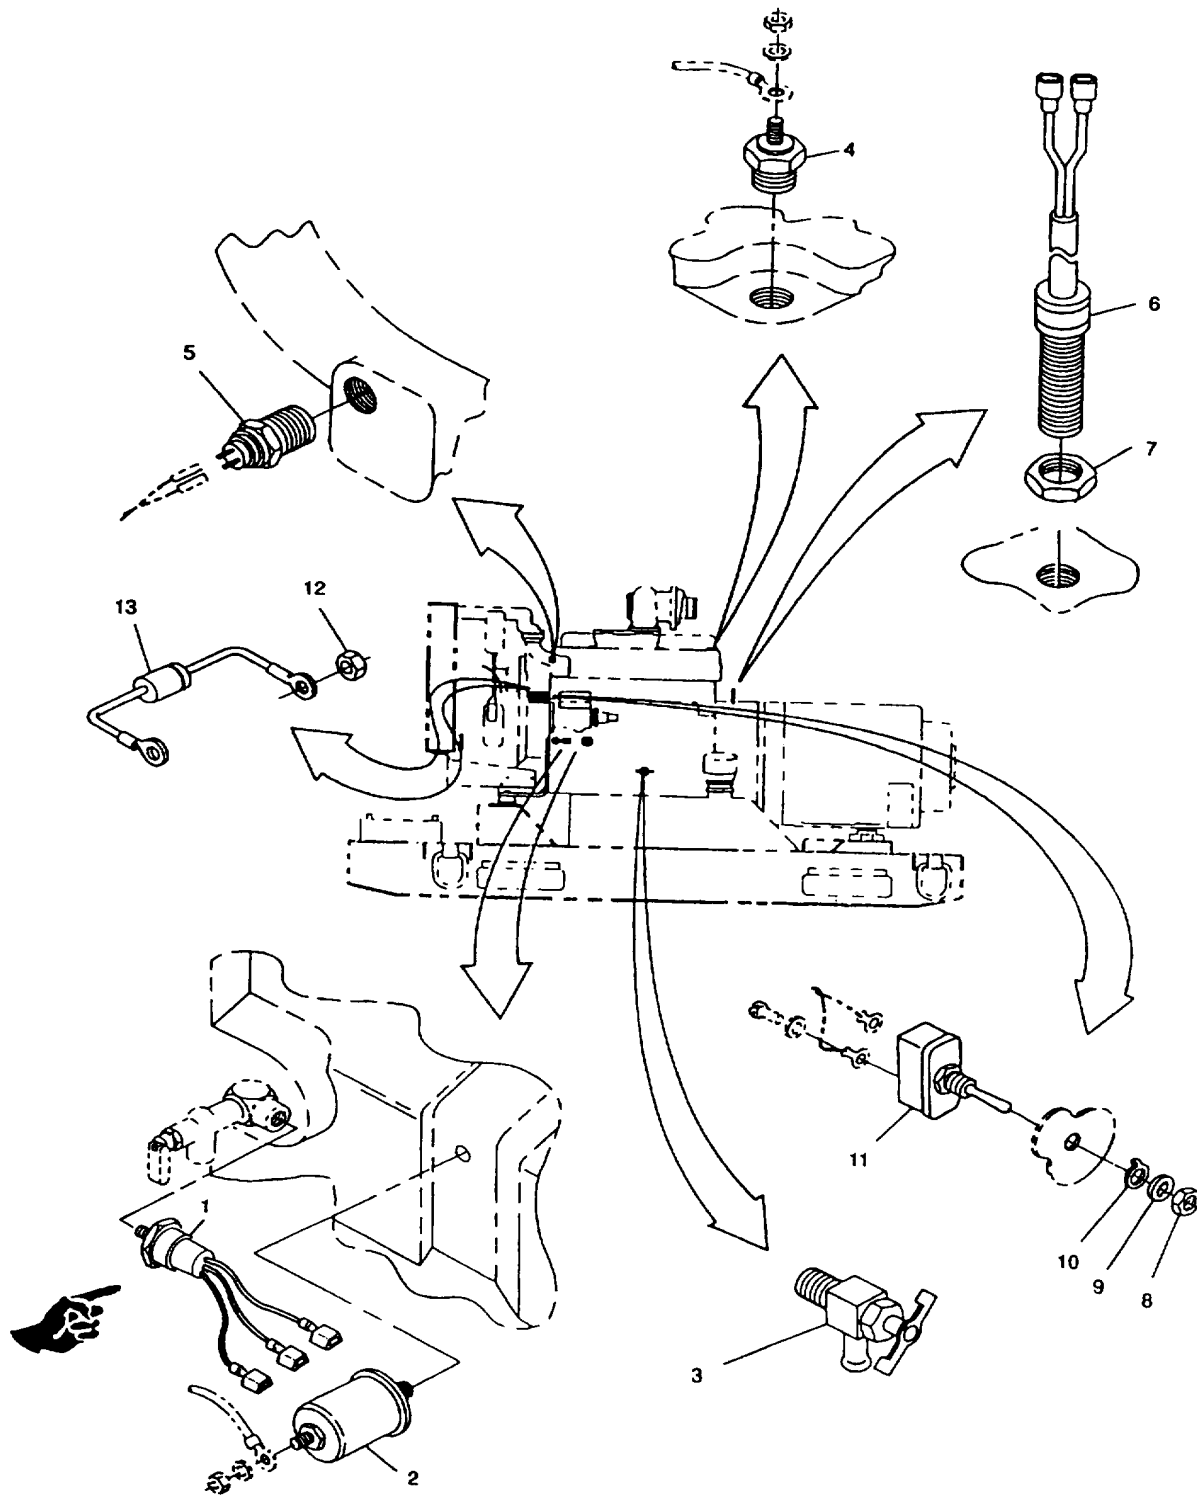

FIGURE 2-30. Engine Switches and Senders
- d. Tag and disconnect electrical leads from low oil pressure switch (1., FIGURE 2-30).
- c. Open left side engine access doors, tag and disconnect low oil pressure switch (1., FIGURE 2-30) electrical leads.
- a. Install low oil pressure switch (1., FIGURE 2-30) into oil sample valve assembly.
- d. Disconnect electrical lead to oil pressure sender (2., FIGURE 2-30).
- c. Open left side engine access door and disconnect oil pressure sender (2., FIGURE 2-30) electrical lead.
- a. Screw oil pressure sender (2., FIGURE 2-30) into engine block.
- d. Disconnect electrical lead from coolant temperature sender (4., FIGURE 2-30).
- d. Open left side engine access doors, open engine block drain valve (3., FIGURE 2-30), and drain coolant into suitable container.